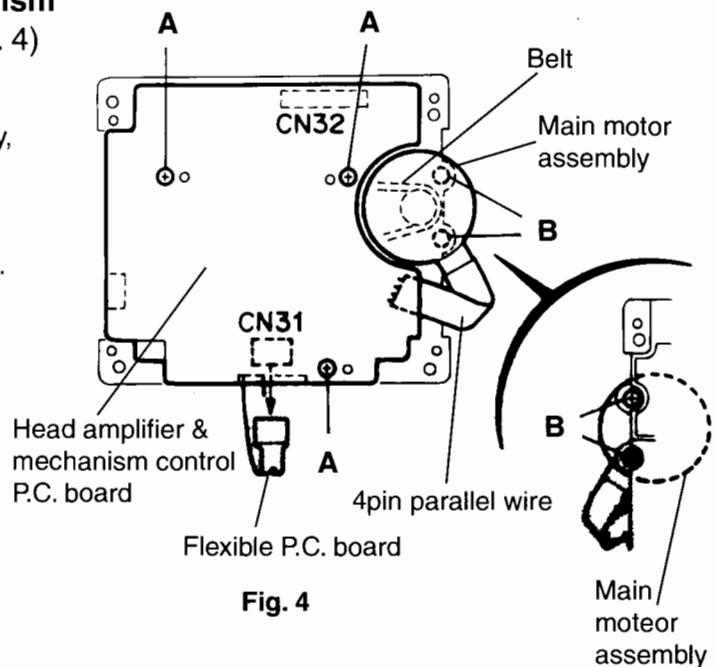

Fig. 4
(See Fig. 4)
(See Fig. 4~6)
1. Remove the two screws **B** retaining the main motor assembly (See Fig. 4, 4a).